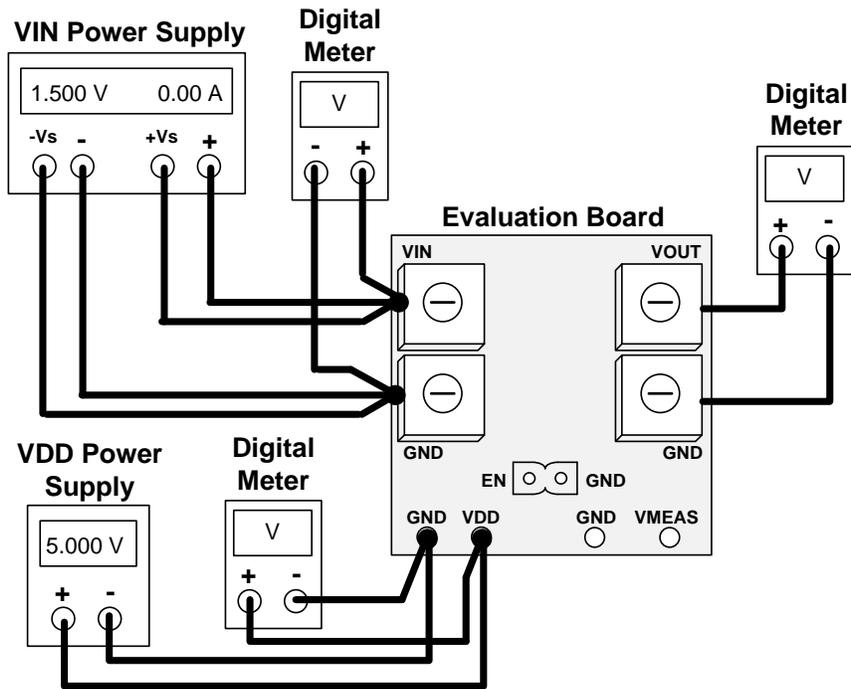

Figure 1. Evaluation Board Setup for Basic Function Test
2. Connect the evaluation board as shown in Figure 1 below.